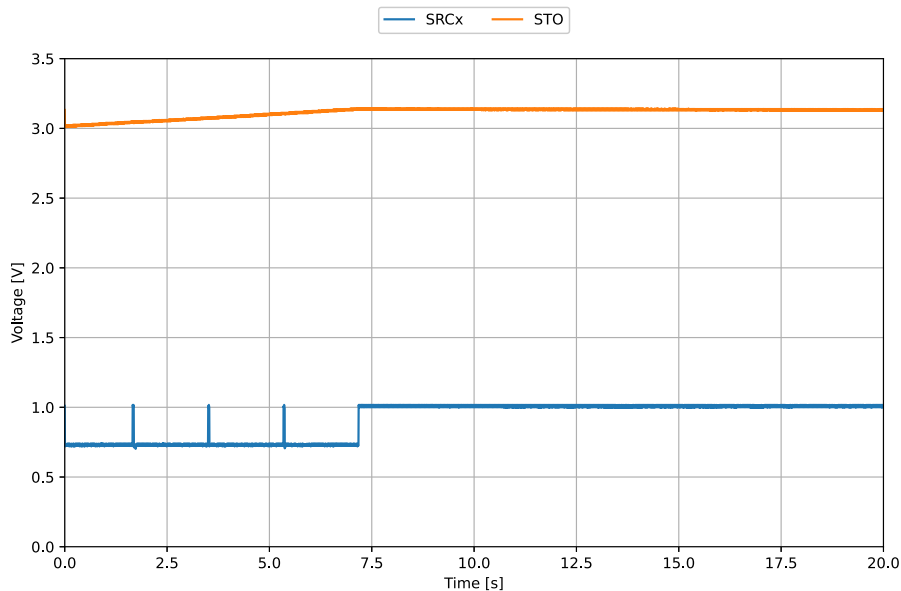

Figure 6: Storage element thermal protection behavior
- When **R_{TH}** is hot enough, above 45°C (near 7 s on Figure 6), the AEM13921 thermal protection is triggered: